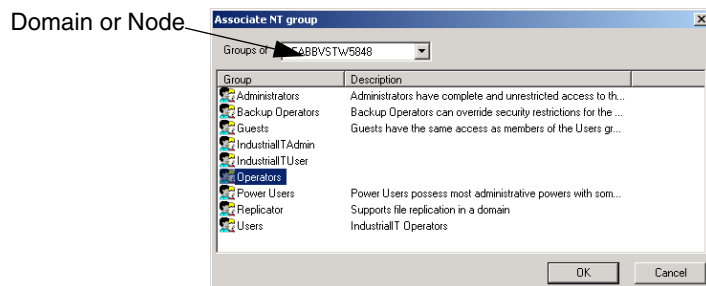

Figure 13. Group Selection
5. A dialog window opens. See Figure 13.